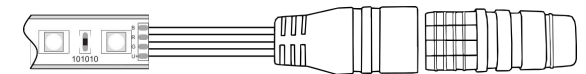

Figure 3
2. Close the end of the LED strip using the enclosed connector end cap by inserting it into the soldered socket at the end of the LED strip (Fig. 3).